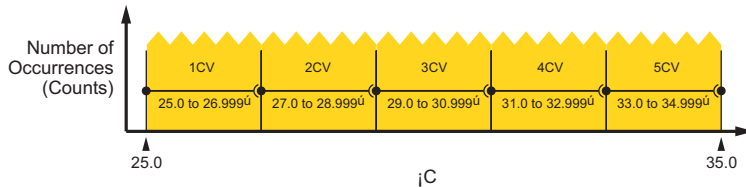

Figure 20: Histogram example
- divide the measured data range into a number of intervals called **classes** (see *Figure 20* (P57))